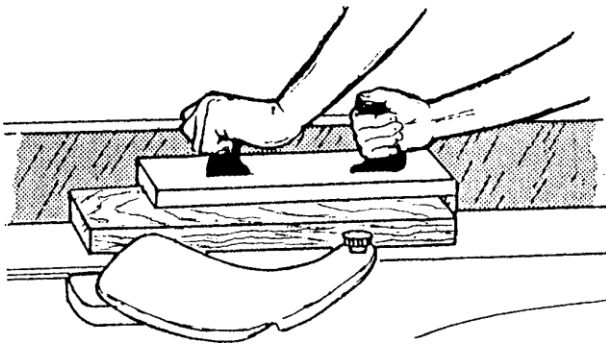
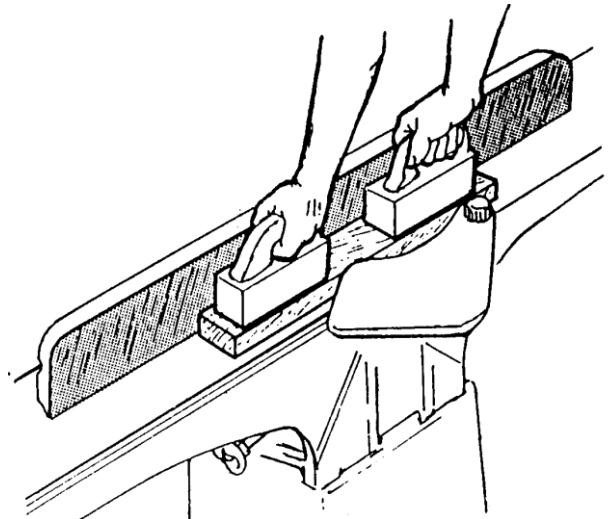
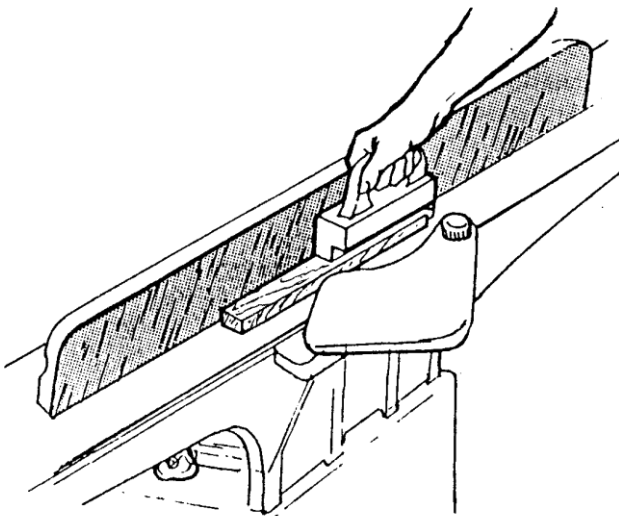
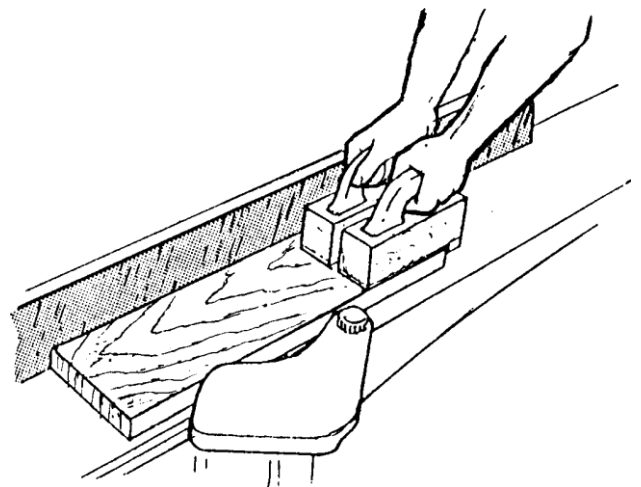

Fig. 29: Two handed push block.
Fig. 30: Two push blocks for stock longer than 12 inches.
Fig. 31: L-shaped push block for narrow stock.
Fig. 32: Two push blocks with dowels for short stock over 4 inches wide.
Never surface pieces shorter than 12 inches or thinner than 3/8 inch without the use of a special work holding fixture. Never surface pieces thinner than 3 inches without the use of a push block. On stock 8" to 12" long use a single two-handed push block (Fig. 29). On stock longer than 12 inches use two push blocks (Fig. 30). With narrow stock use an "L" type push block as shown in Fig. 31. When surfacing short stock over 4 inches wide, use two (2) push blocks to guide material over cutterhead (Fig. 32).